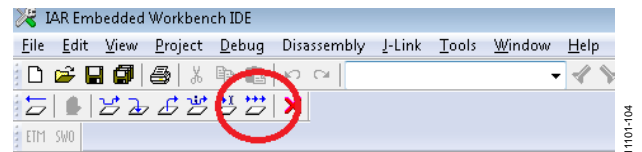

Figure 12. IAR Go Toolbar Button
2. Click **go** as shown in Figure 12.